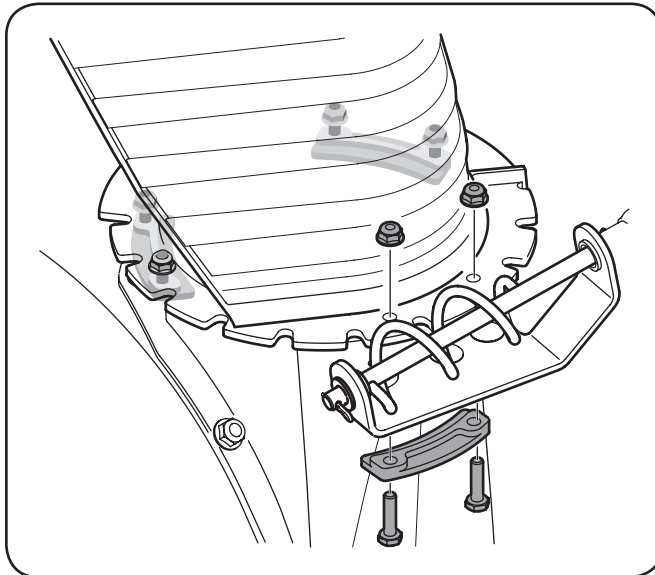

Figure 3-5
1. Remove lock nuts and screws securing one of the flange keepers to the chute assembly. Loosen the fasteners of the other two flange keepers. See Figure 3-5.
3. Secure flange keeper removed earlier with lock nuts and screws. Tighten down nuts securing the other two flange keepers. See Figure 3-5.